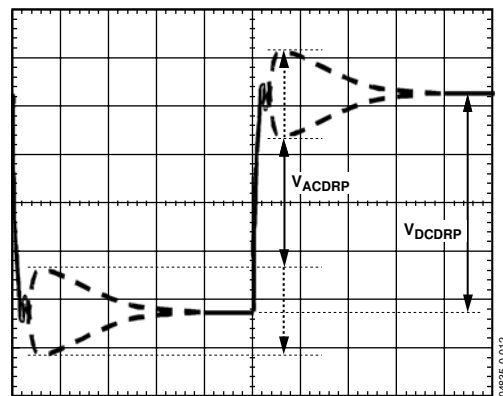

Figure 17. AC Loadline Waveform
15. You see a waveform that looks something like Figure 17. Use the horizontal cursors to measure V_{ACDRP} and V_{DCDRP} as shown. **Do not measure the undershoot or overshoot that happens immediately after the step.**